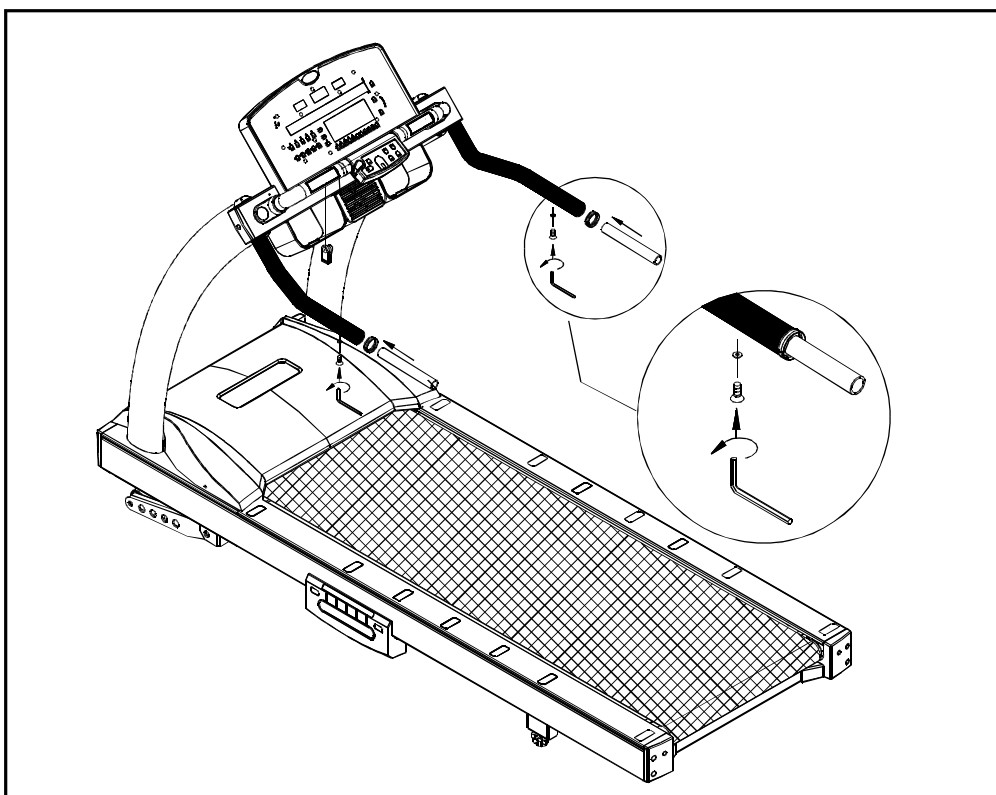

Fig.12
- (2) Insert short transition tubing into left and right short handrails, align hole for fastener. Place handrail transition ring and insert fasteners on underside of handrail. (see Fig.12)